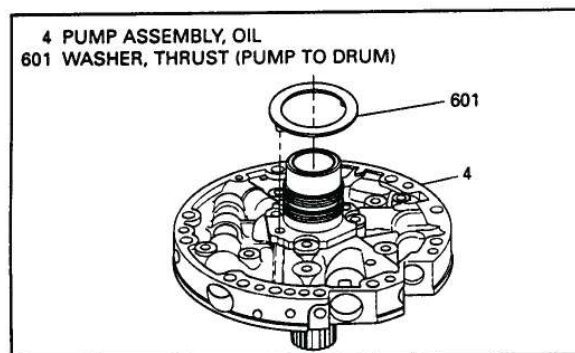

Figure 173
32. Install the thrust washer on back of the pump cover, ensuring that washer tabs are engaged in slots, and retain with Trans-Jel (See Figure 173).